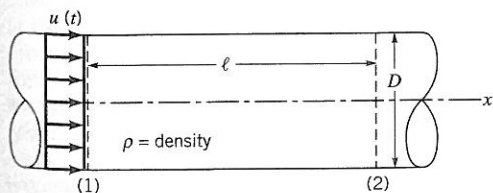

Figure P5.71
5.71 Consider unsteady flow in the constant diameter, horizontal pipe shown in Fig. P5.71. The velocity is uniform throughout the entire pipe, but it is a function of time: $\mathbf{V} = u(t)\mathbf{i}$. Use the x component of the unsteady momentum equation to determine the pressure difference $p_1 - p_2$. Discuss how this result is related to $F_x = ma_x$.